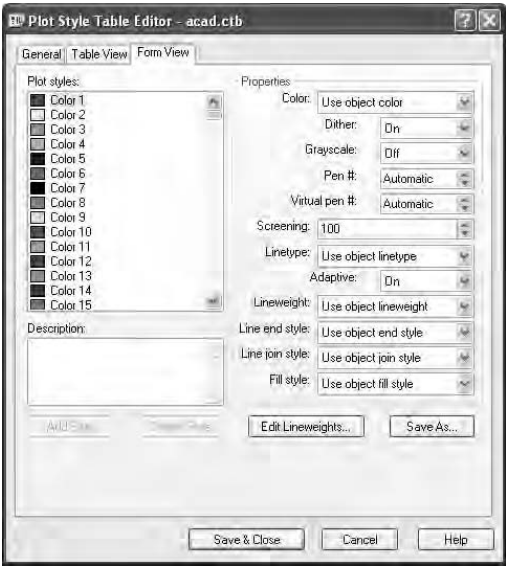

FIGURE 14.21 The Form View tab of the Plot Style Table Editor dialog box for the acad.ctb file
- Click the Form View tab (see Figure 14.21). The same information is organized in a slightly different way. Here the plot styles are listed in the box on the left. You can highlight one or more plot styles at a time. The properties of the highlighted styles are shown on the right. This view is set up to modify the properties of chosen plot styles. Notice that the first property, Color, has Use Object Color assigned for all plot styles.